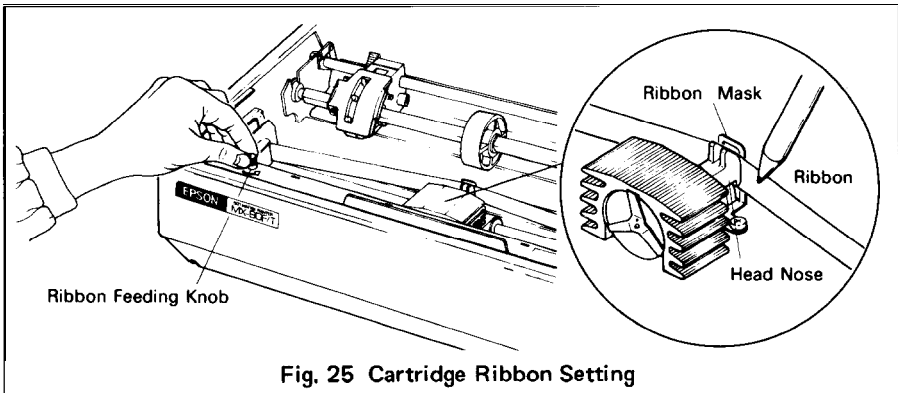

Fig. 25 Cartridge Ribbon Setting
STEP 4. Put the ribbon between the head nose and the ribbon mask. In this case, the ribbon can be set easily by hooking it to the edge of the head nose and turning the ribbon feeding knob of the cartridge case in the direction of the arrow (i.e., counterclockwise) while depressing the ribbon with a ball-point pen. Then, tension the ribbon by turning the ribbon feeding knob counterclockwise. (See Fig. 25.)